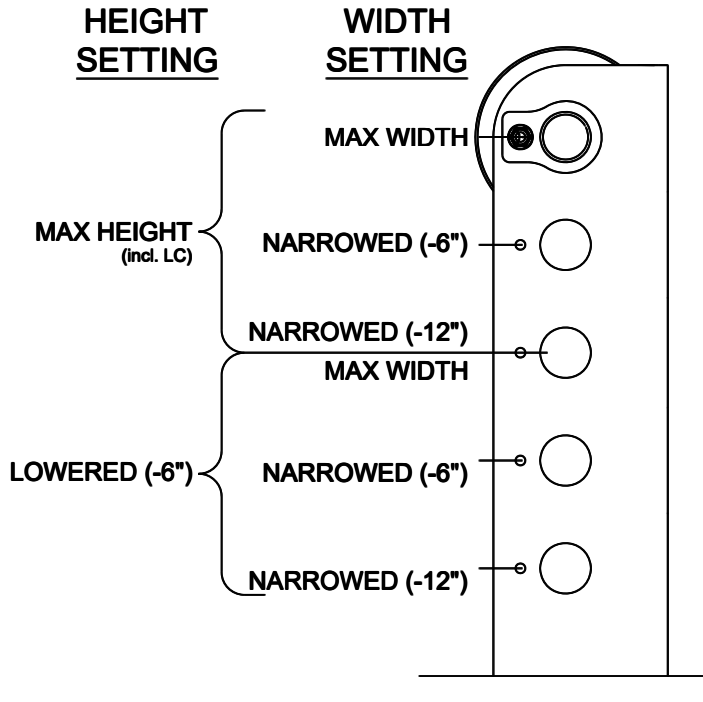

Fig. 2 – Sheave Position in Lower Bracket
- 6) Determine the sheave location on the lower bracket based on the overall height and width of the lift at its chosen configuration. Use the General Specifications table from **page 2** and **Fig 2** below.